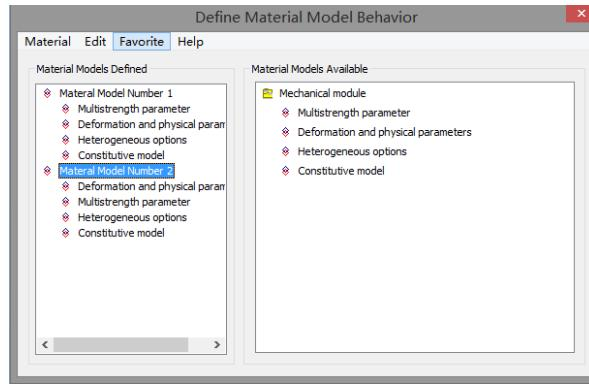

Figure 46 Material definition
- (3) Define the material parameter (Figure 46);